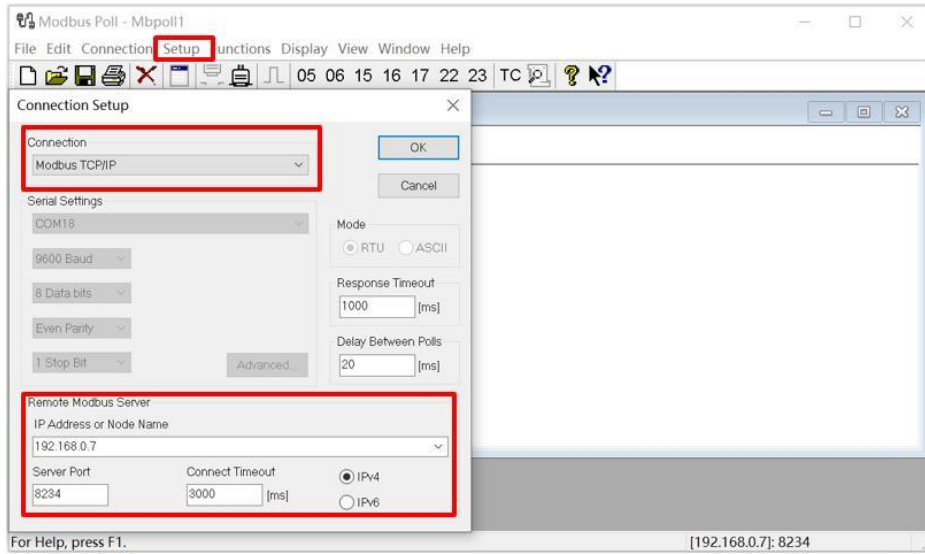

Figure. 9
6. Access PowerPACK Pro-5 using Modbus host software (here used **Modbus Poll** as an example). As shown in figure 9, enter the IP address and Port number of the PowerPACK Pro-5.